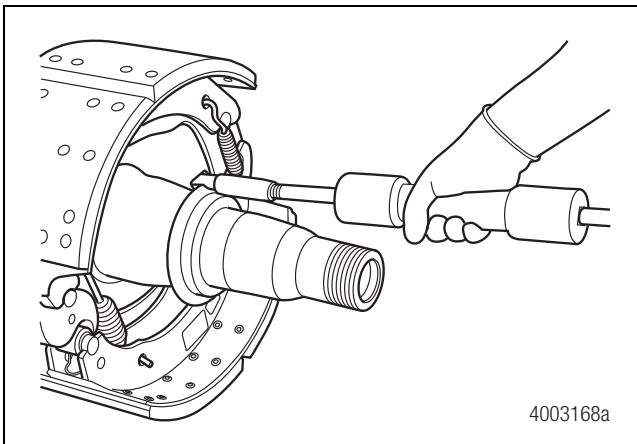

Figure 3.10
13. An alternate method is to use a slide hammer with a hook on the end of the tool. Figure 3.10.